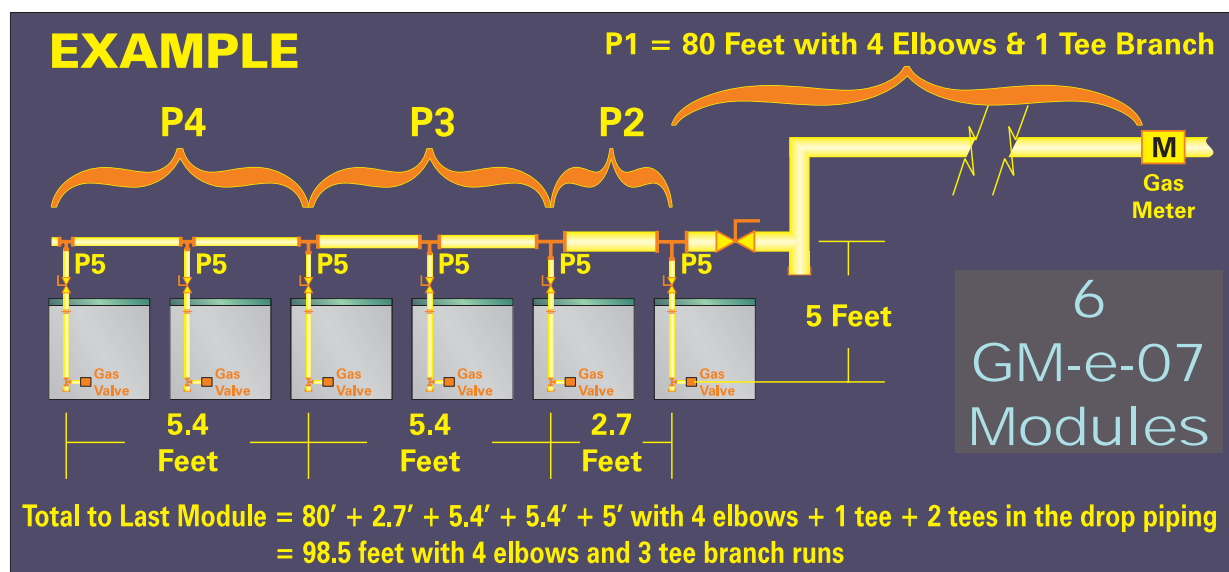

Figure 7.2: Gas Pipe Sizing Example
- Figure 7.2 is a schematic piping diagram of (6) Natural Gas GM-e-07 modules on 32" centers as shown. The example will be for natural gas at 0.60 specific gravity.